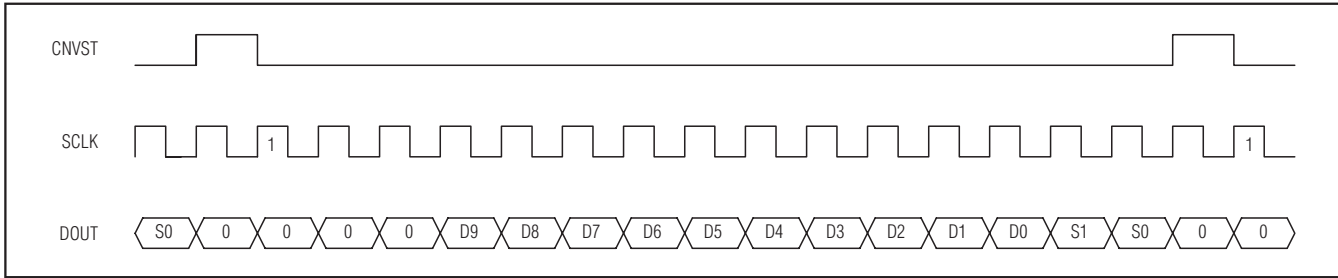

Figure 17. DSP Interface—Continuous Conversion
The MAX1077/MAX1079 can also be connected to the TMS320C54\_ by using the data transmit (DX) pin to drive CNVST and the CLKX generated internally to drive SCLK. A pullup resistor is required on the CNVST signal to keep it high when DX goes high impedance and 0001hex should be written to the DXR continuously for continuous conversions. The power-down modes can be entered by writing 00FFhex to the DXR (see Figures 17 and 18).
can be selected to eliminate the need for writing to the transmit-data register more than once. For single conversions, idle CNVST high and pulse it low for the entire conversion. The ADSP21\_ \_ \_ STCTL and SRCTL registers should be configured for late framing (LAFR = 1) and for an active-low frame (LTFS = 1, LRFS = 1) signal. This is also the best way to enter the power-down modes by setting the word length to 8 bits (SLEN = 1001). Connect the  $V_L$  pin to the ADSP21\_ \_ \_ supply voltage when the MAX1077/MAX1079 are operating with a supply voltage higher than the DSP supply voltage (see Figures 17 and 18).